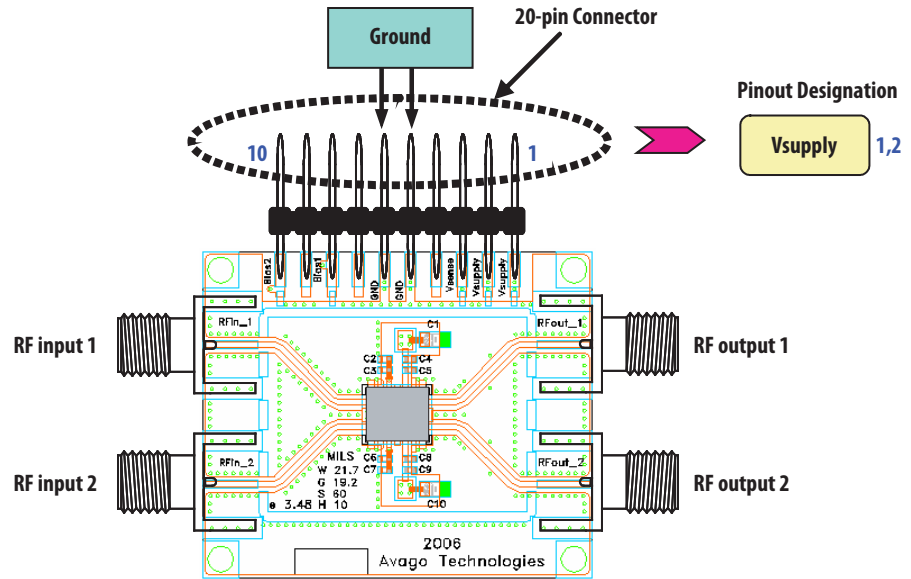

Figure 5. Demo Board Layout Diagram
$T_A = 25^\circ\text{C}$, $V_{dd} = 5\text{V}$ @ $V_{ctrl} = 2.2\text{V}$, RF performance at 2.0 GHz, given for each of the 2 RF paths, measured on demo board (see Fig. 5) unless otherwise specified.
- Measurements at 2GHz obtained using demo board described in Fig 5.